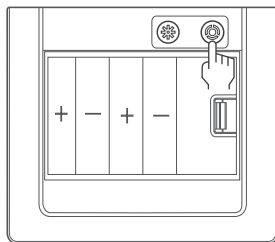

Figure 4
2. As shown in Figure 4, press the black safe mode button 'ⓘ' on the battery compartment and there will be a voice prompt 'Safe mode is on', indicating successful activation. Press the button again can turn 'Safe mode' off.